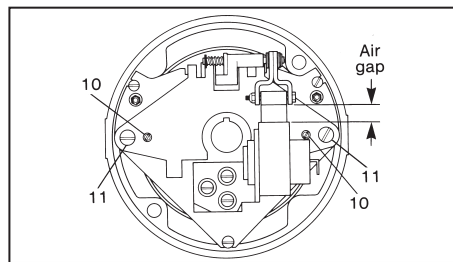

Figure 7
Note 1: Both adjustment screws (11) on Figure 7 must be turned equal amounts counterclockwise to decrease torque.
- Manually lift solenoid plunger to maximum travel. Depress and allow solenoid plunger to snap out several times. See Figure 7. Measure solenoid air gap between mating surfaces of solenoid frame and solenoid plunger. (On vertically mounted brakes, it will be necessary to push solenoid plunger into solenoid frame to the point where spring pressure is felt, before measuring solenoid air gap.) As friction disc wear
- The solenoid air gap may be decreased by turning both wear adjustment screws (10) equal amounts clockwise, approximately 1/8 turn, until approximate solenoid gap is attained. Counterclockwise rotation will increase gap. See Figure 7. Repeat Step 2.